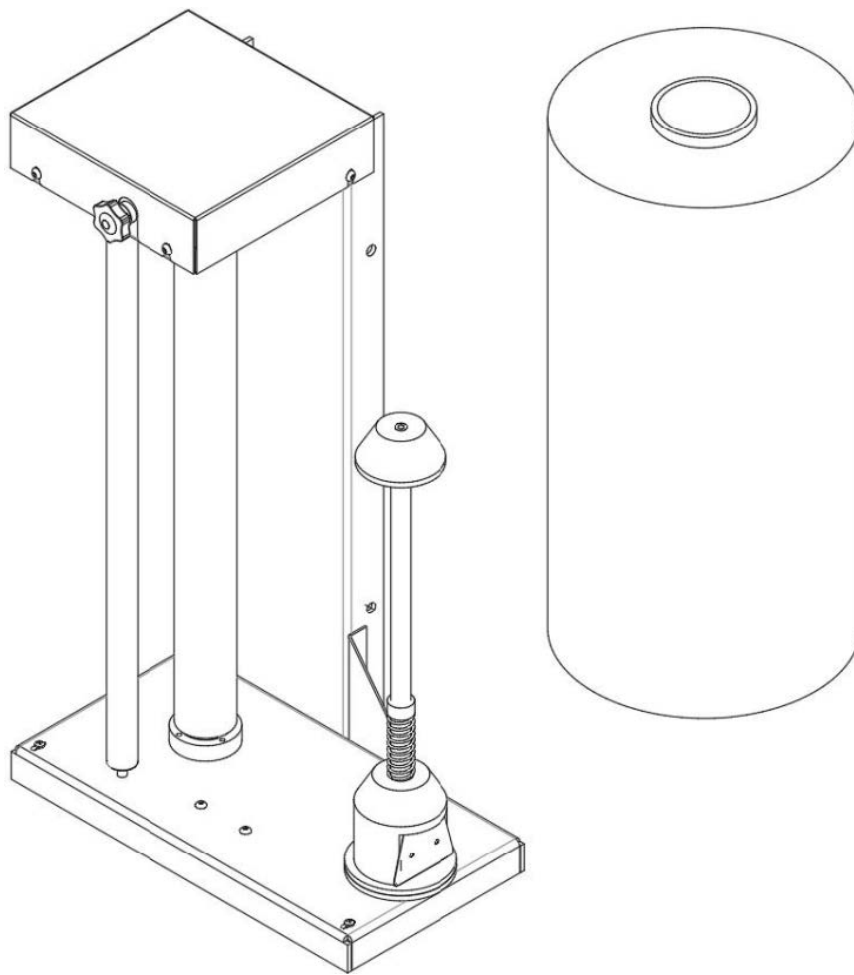

Figure 12
1. Load the film roll in the film carriage (See Figure 12)